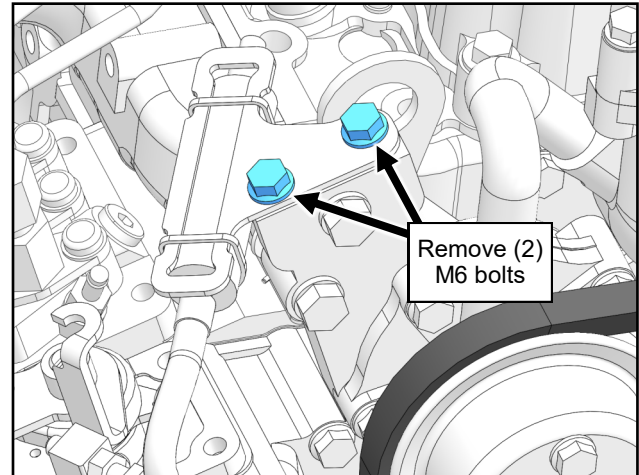

Fig. 4.1 (Remove M6 bolts from Tie-down plate)
- 4.1 Per Figure 4.1, remove (2) M6 bolts from the tie-down plate located at the top front of the engine.